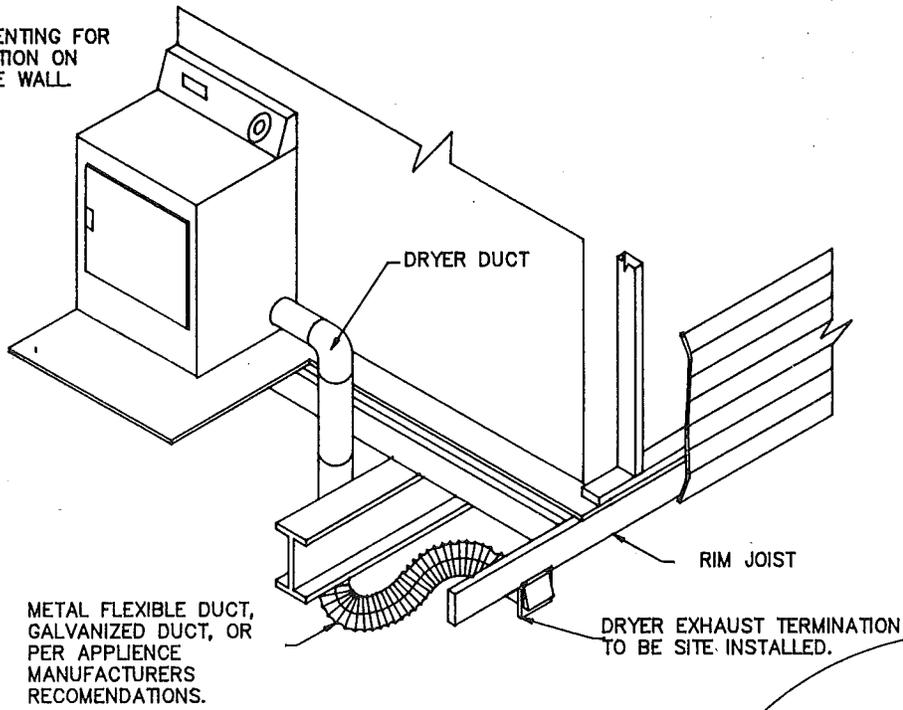

FIGURE 50
3. The exhaust system shall be completed on site as shown with materials provided by the owner. See Figures 50 and 51.